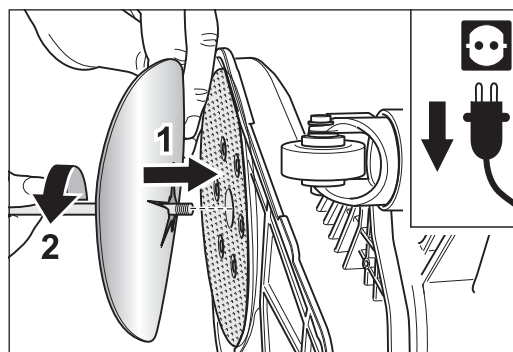

Fig. 18 Mount the new sanding disc (1) and tighten the screw (2).
- 5 Put on a new sanding disc and insert the screw with the paper tensioning disc into the hole of the sanding plate (fig. 18, 1).
- 6 Turn the screw in the sanding plate with the universal spanner (fig. 18, 2). Make sure that the sanding disc is as centered as possible on the sanding plate.